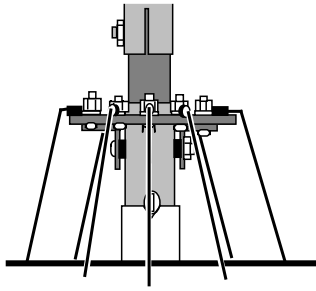

Figure-12A: Connecting Radials to Base Radial Ring
- [] Install the antenna base assembly on its mount (see **Figure-12A**).